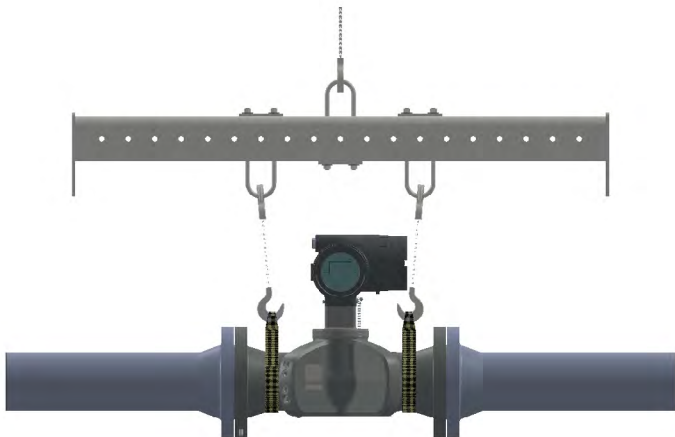

Figure 7: Lifting strap locations
- Make sure the **Sentinel LCT8** is oriented with the flow transmitter in a vertical position at the top, as shown in *Figure 7* below.
To avoid possible strain, refer to the **Sentinel LCT8** label for the assembly weight, use a properly-rated lifting assembly, and place the lifting straps in the indicated locations (see *Figure 7* on page 6). **Never stand below any object being lifted!**